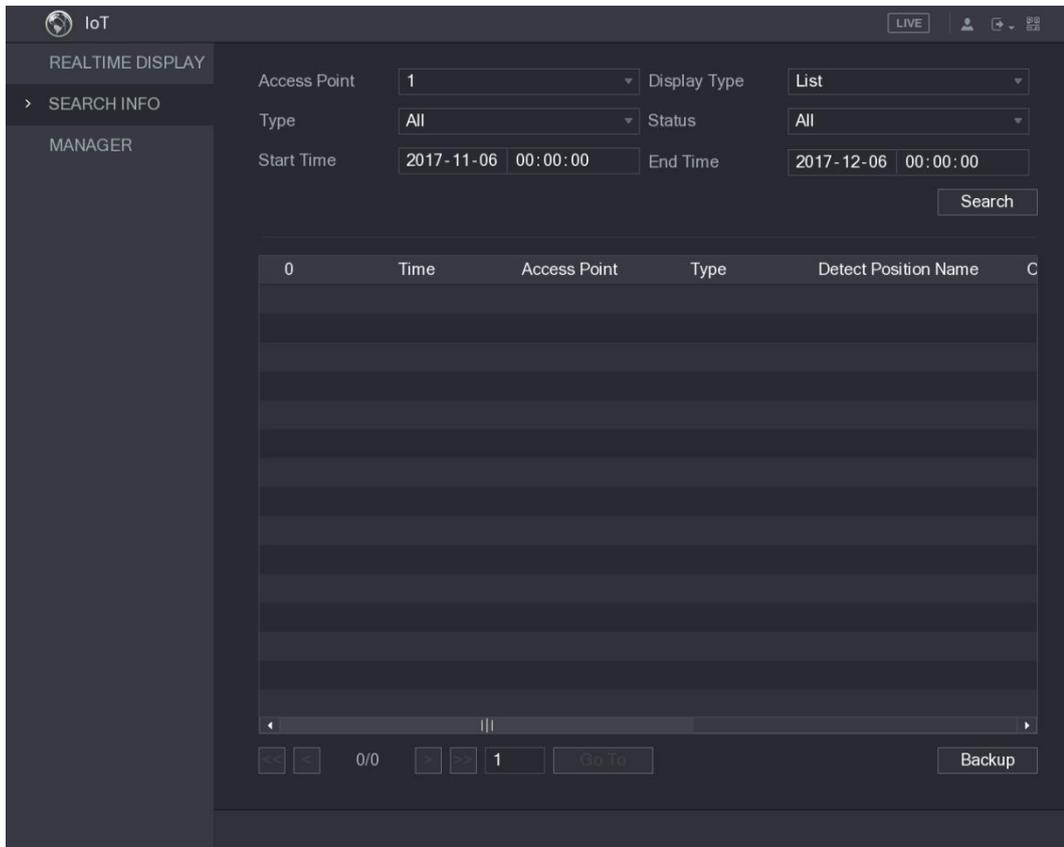

Figure 5-175
Step 1 On the main interface, select **IoT > SEARCH INFO**. See Figure 5-175.